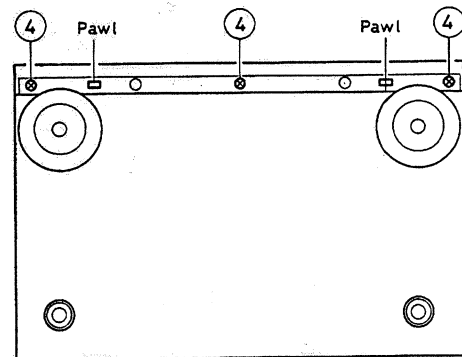

Fig 2 - 2
1. Remove four screws ⑤ from the corners of the mechanism.(see Fig 2 - 5)